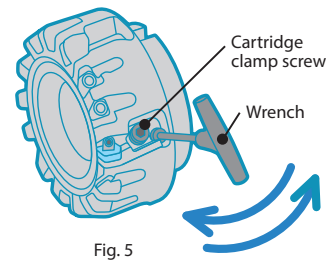

Fig. 5
5. Adjust the extruding amount with adjustment screw. (Fig. 5)